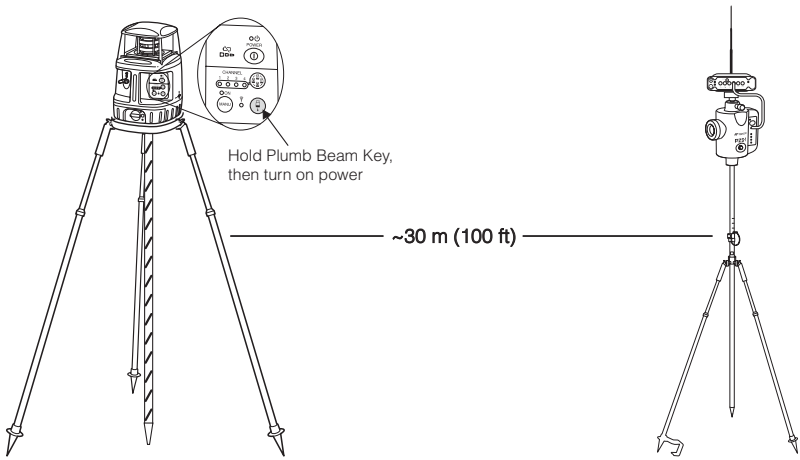

Figure 4-27. Setup Transmitter and Sensor
4. Set up the PZS-1 sensor at the same level as the transmitter, on relatively level ground, and approximately 30 meters (100 feet) away. Power on the sensor and the receiver (Figure 4-27 on page 4-31). Connect the sensor and Pocket-3D controller.